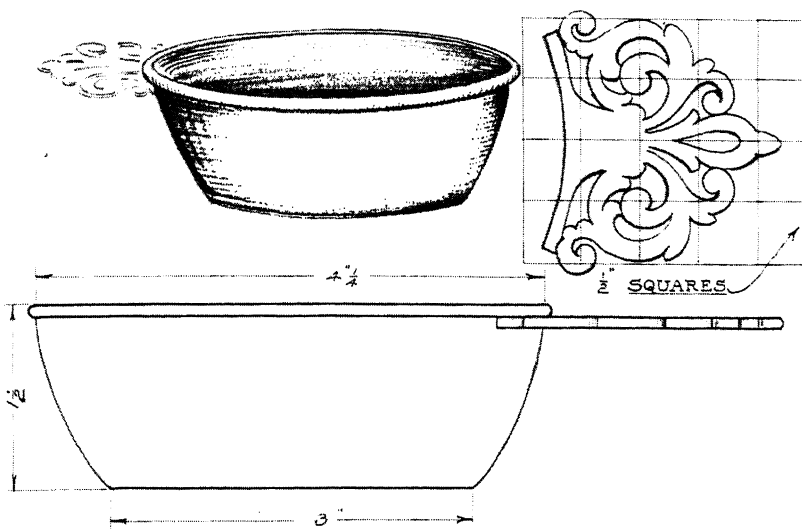

FIG. 1
1. Raise the bowl with the ball-peen hammer. The successive shapes from each round of hammering are shown in Figs. 1 to 6.